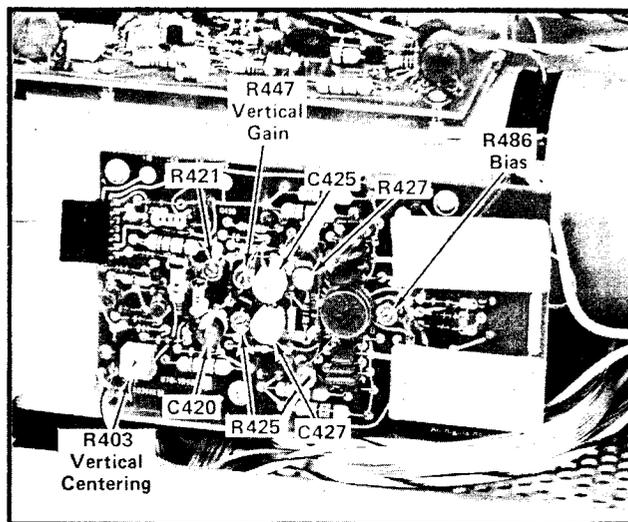

Fig. 3-3. Location of vertical system adjustments (Vertical Output board).
- d. ADJUST—Bias R486 for maximum gain. (See Fig. 3-3.)
- c. ADJUST—Vertical Centering adjustment R403 (see Fig. 3-3) to position the trace to the center horizontal line.
- d. ADJUST—Vertical Gain adjustment R447 (see Fig. 3-3) for exactly six divisions of deflection between the second and sixth traces.
d. ADJUST—High-frequency compensation as given in Table 3-2 for optimum square leading corner and flat top with minimum aberrations within limits given in part c. Location of adjustments is shown in Fig. 3-3. Use the low-capacitance screwdriver to adjust the variable capacitors. Repeat the complete adjustment procedure several times to obtain optimum adjustment.